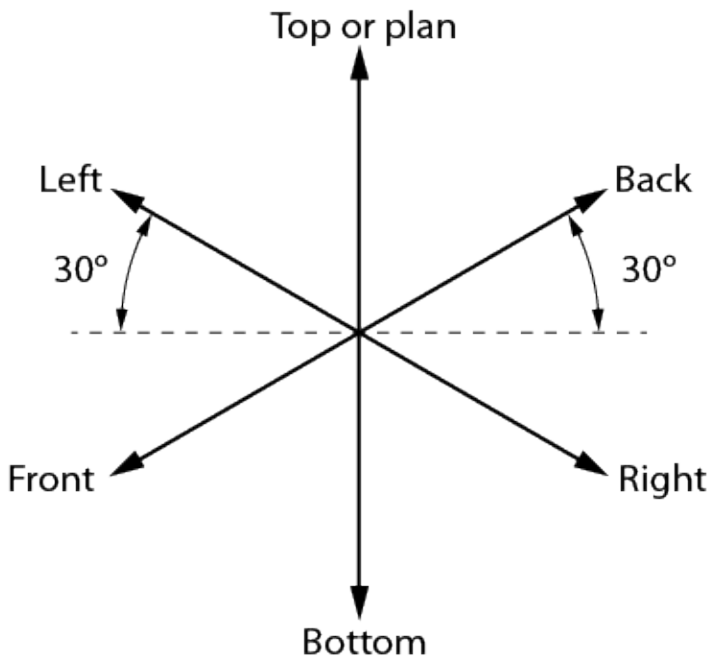

Figure 9 – Step 1: Isometric guide for a front-right view
Draw a small star-shaped axis on the bottom corner of your grid paper. The sloping axes should be drawn at a 30° degree angle from the horizontal grid line. The vertical axis of the star indicates height (H) or depth (D), and the two sloping axes indicate the length (L) and the width (W) of the rectangle. The vertical axis can be used as a guide when making lines on your drawing. Notice we have labelled the points on the star in Figure 9. These labels can change depending on the view that you may want when drawing a stationary object. The bottom two horizontal points indicate the view that is being drawn. In this case, we would be creating a front-right view.